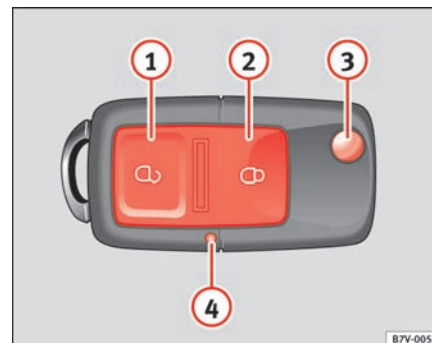

Fig. 61 Assignment of buttons on the remote control key
When the key is turned *once* in the driver's door lock, in the direction of opening, or when button ⇒ page 95, fig. 61  on the remote control key is pressed, only the driver's door will unlock.
- Press button  ⇒ fig. 61 ① on remote control to unlock all the doors and tailgate.
- Press button  ② on remote control to lock all the doors and tailgate.
When either of these buttons is pressed, the battery indicator lamp on the key ⇒ fig. 61 ④ lights up.
Using button ⇒ fig. 61 ③ on the control, the key shaft is released.
- Briefly press the open button  ⇒ page 95, fig. 61  once.
The vehicle can no longer be opened and closed with the remote control if you press button  ⇒ page 95, fig. 61  a long way outside the effective range of the radio wave remote control. The remote control key will have to be resynchronised.
If the battery indicator on the remote control ⇒ page 95, fig. 61  does not flash when the buttons are pushed, the battery must be replaced. ►
- Press button ⇒ page 95, fig. 61 ③ to fold out the key bit.